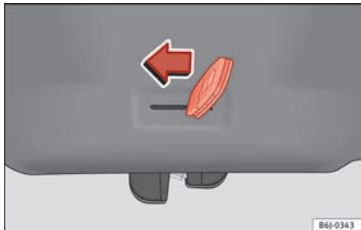

Fig. 7 Unlocking the rear lid manually.
- Insert the key in the groove and unlock the locking system, turning the key from right to left, as shown by the arrow » **Fig. 7**.